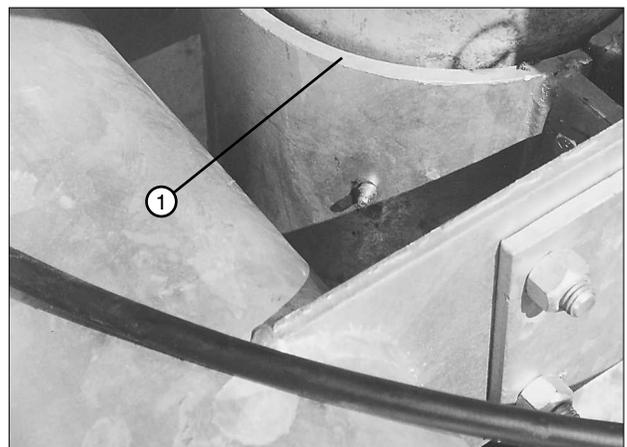

Figure 71-3 1. Lower Bearing
3. Lubricate two (2) grease fittings on the lower bearing. See Figure 71-3.